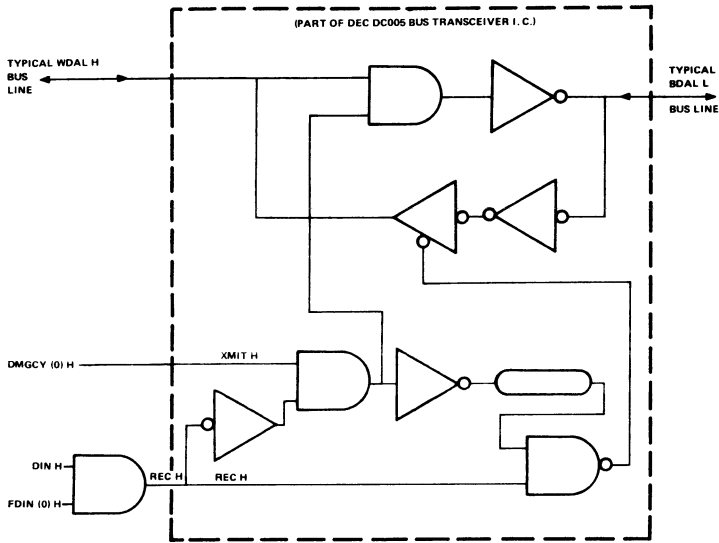

Figure 14-12 M7270 BDAL Bus Driver Enable Logic
The bus driver enable logic is illustrated in Figure 14-12. The four bus driver portions in each of four DIGITAL DC005 bus transceiver integrated circuits are enabled whenever DMGCY(0) H is high (DMG cycle not in progress) and DIN H and FDIN(0) H are passive. The drivers are disabled whenever a DMG cycle is in progress, or when the processor is reading the bus [instruction fetch or data portion of DATI or DATIO(B) bus cycles]. Bus receivers are enabled only when FDIN(0) H and DIN H are both true (high).